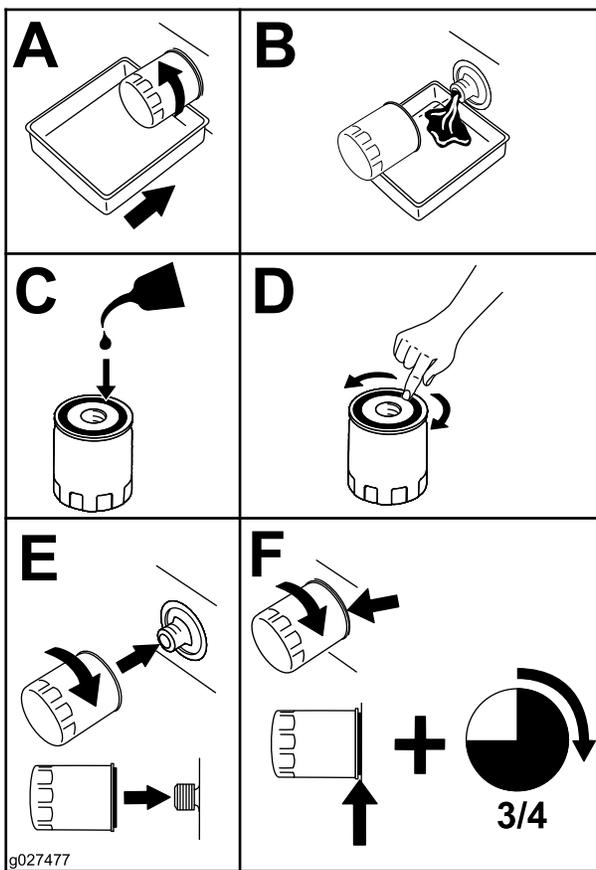

Figure 31
- Replace the engine-oil filter as shown in Figure 31.